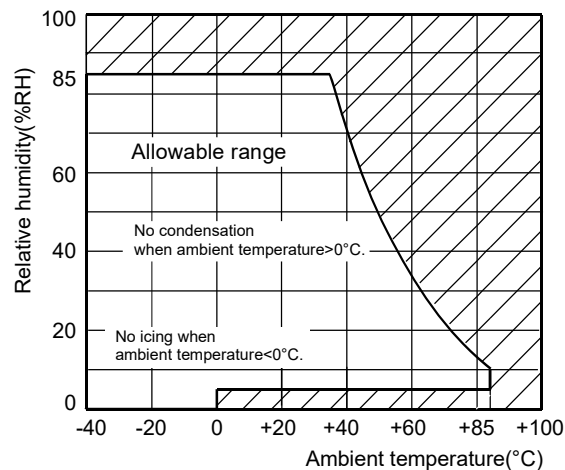

Figure 1
- 1.1 Please avoid direct sun radiation and keep ambient temperature, humidity and air pressure during usage, storage and transport. The allowable range of temperature and humidity are shown in non-shaded area of Figure 1: